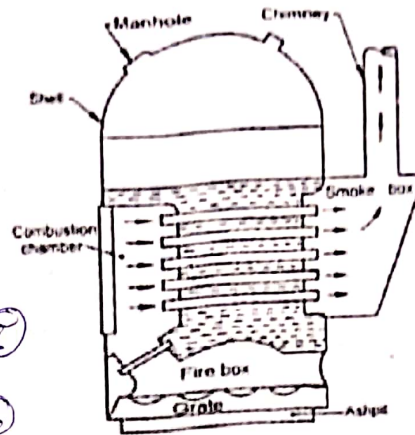

Fig. 3.1 Cochran Boiler
① These are various designs of vertical multitubular boilers, A Cochran boiler is considered to be one of the most efficient type of such boilers. It is an improved type of simple vertical boiler.
② This boiler consists of an external cylindrical shell and a fire box as shown in Fig. 3.1 The shell and fire box are both hemispherical. The hemispherical crown of the boiler shell gives pressure of steam and strength to withstand the pressure of steam inside the boiler. The hemispherical crown of the fire box is also advantageous for resisting intense heat. The fire box and the combustion chamber is connected through a short pipe. The flue gases from the combustion chamber flow to the smoke box through a number of smoke tubes. Then tubes generally have 62.5 mm external diameter and are 165 in number. The gases from the smoke box pass to the atmosphere through a chimney. The combustion chamber is lined with fire bricks on the shell side. A manhole near the top of the crown on the shell is provided for cleaning.